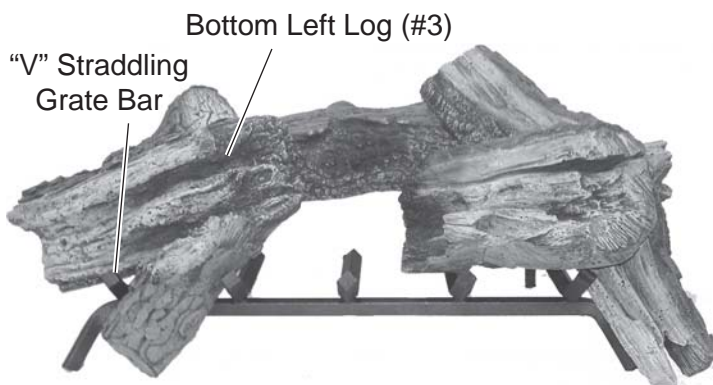

Figure 133 - Straddling "V" of Bottom Left Log (#3) on Grate Bar
5. Place Bottom Left Log #3 on grate. The “V” of the log should straddle the end grate bar. See *Figure 133*.